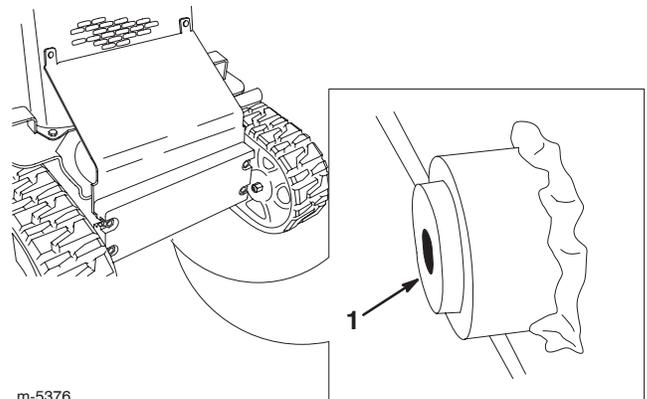

Figure 46
6. Place a large drain pan (capable of holding 15 US gallons) under the drain plug on the front of the traction unit (Fig. 46).
7. Remove the drain plug and allow the oil to drain into the pan (Fig. 46).